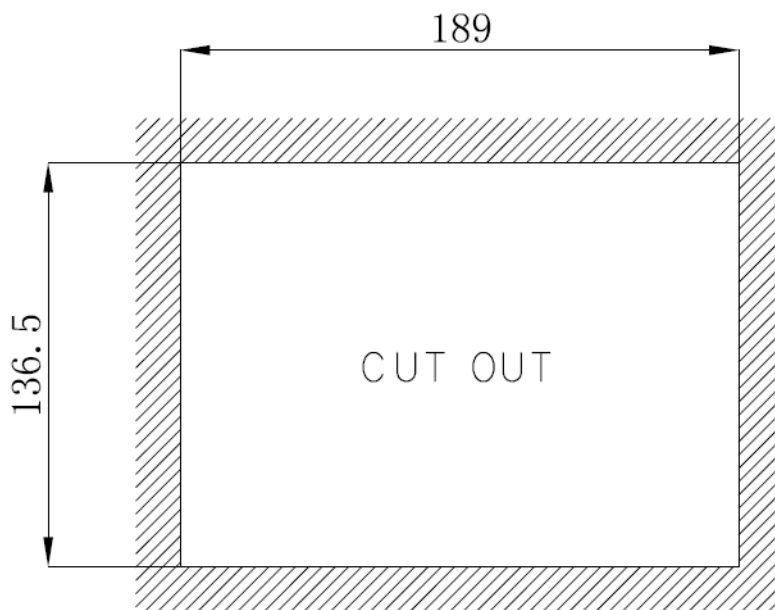

**Figure 2.23 Secure the Panel PC**
8. Secure the panel PC by fastening the retention screw of the wall-mounting bracket. (Figure 2.23)